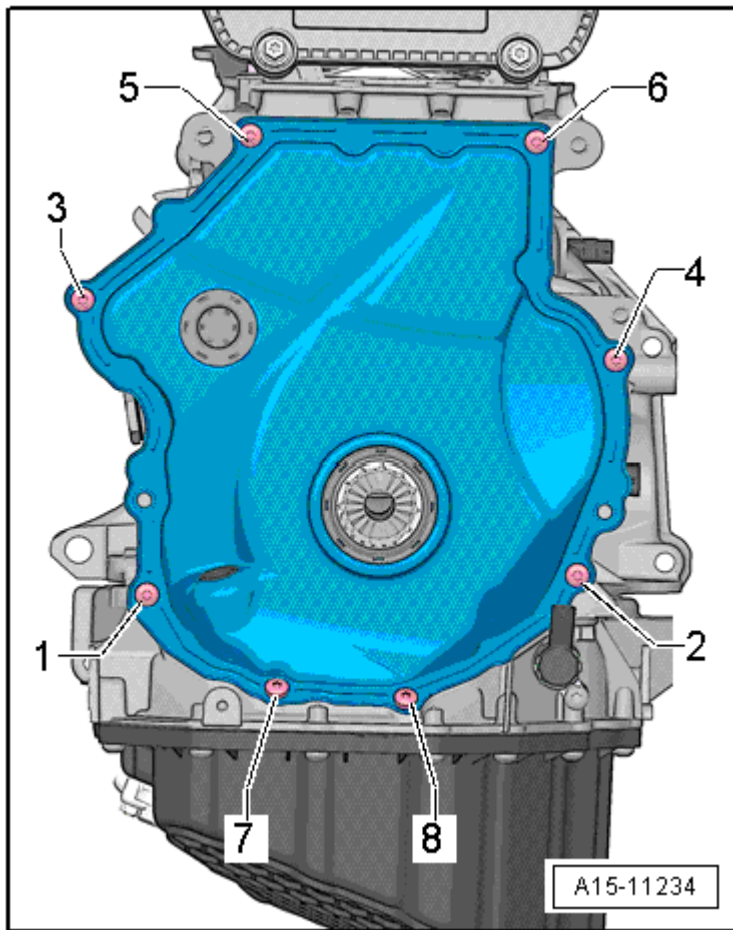

Fig. 9: Identifying Timing Chain Guard Lower Section - Tightening Sequence for 8 Bolts
- Tightening sequence with 8 bolts, refer to **Fig. 9**.